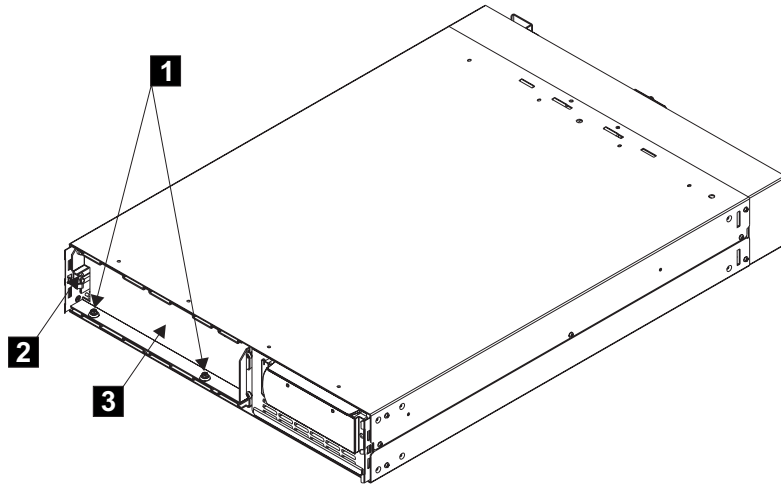

Figure 246. Fastening the battery retaining bracket
- a. Remove the two bolts (**1** in Figure 246 on page 515).
- b. Remove the hex nut (**2** in Figure 246 on page 515).
- c. Remove the battery retaining bracket (**3** in Figure 246 on page 515).